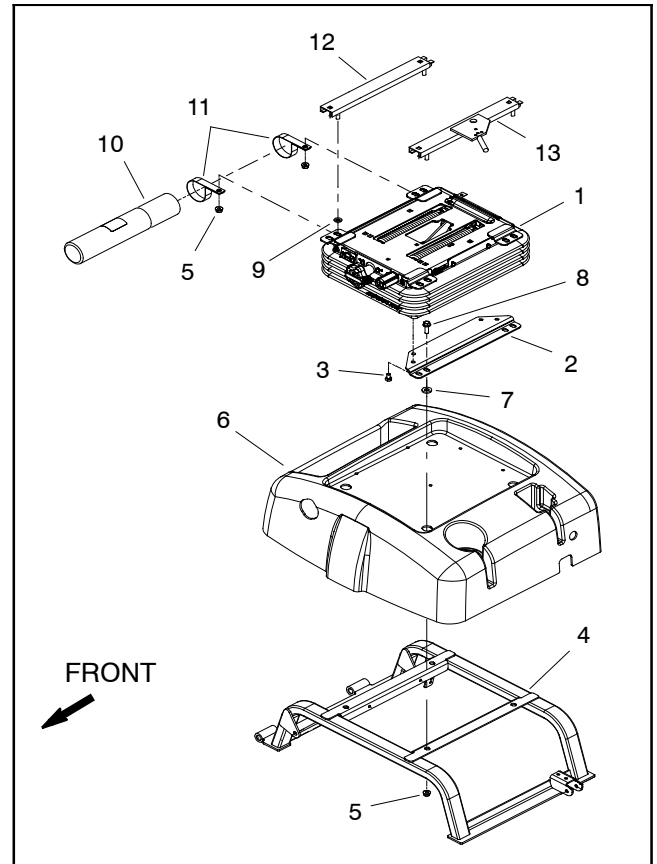

Figure 19
5. Support seat suspension to prevent it from falling. Remove four (4) flange head screws (item 8 in Figure 19) and flange nuts (item 5 in Figure 19) that secure seat suspension with attached seat brackets to seat base.
6. Remove seat suspension assembly from machine. Locate and retrieve four (4) spacers (item 7 in Figure 19) from between seat suspension assembly and seat base.
A. If seat adjusters (items 12 or 13 in Figure 19) were removed from seat suspension, install adjuster studs in rear set of holes in the suspension. Also, make sure that washer (item 9 in Figure 19) is placed between seat adjuster and suspension.
2. Position seatbase cover and four (4) spacers (item 7 in Figure 19) to seat base.
3. Position seat suspension with attached seat brackets to seat base. Use rear set of mounting holes in seat brackets when aligning seat suspension assembly with seat base. Secure with four (4) flange head screws (item 8 in Figure 19) and flange nuts (item 5 in Figure 19).